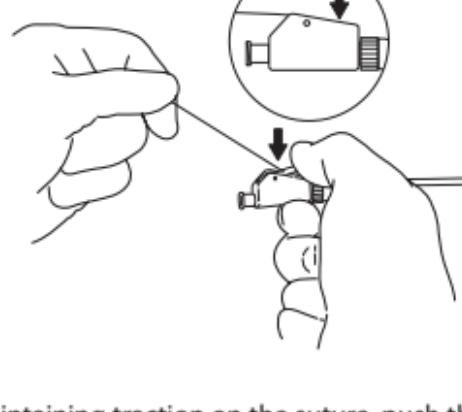

Fig. 2
- b. While maintaining traction on the suture, push the locking cam lever down until a distinct "snap" is felt. The distal loop of the stent is now locked into position. (**Fig. 2**)